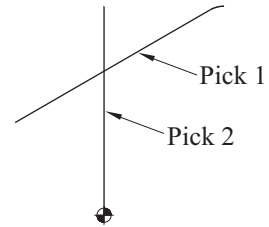

Figure 5-22 Selection Points for Trimming
45. Choose the angular line, then the last vertical line (as shown in Figure 5-22), and press Enter to accept.